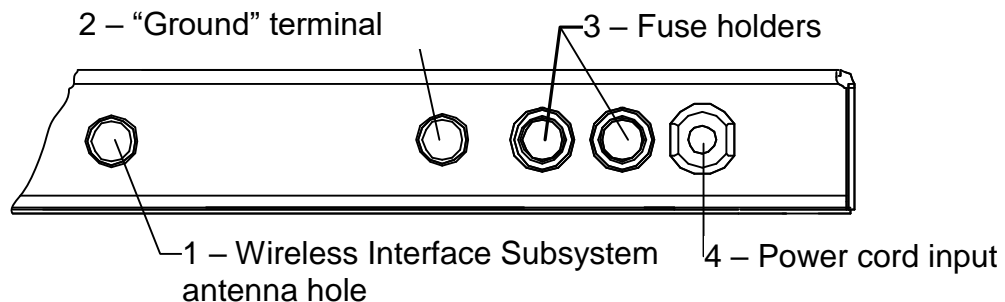

Figure 2 – Back View of the base
2.3.2.5 The back side of the base (see Figure 2) has: a hole for mounting the Wireless Interface Subsystem antenna (1), "Ground" terminal (2) for analyzer grounding, fuse holders (3) and power cord input (4).
3.3.2 When using the Lintel® - Link¹ or Lintel® - LIMS¹ programs, you should install the antenna on the device (see figure 2, page 5) and the microcircuit of the wireless communication device. The antenna is installed in the socket on the back of the device.